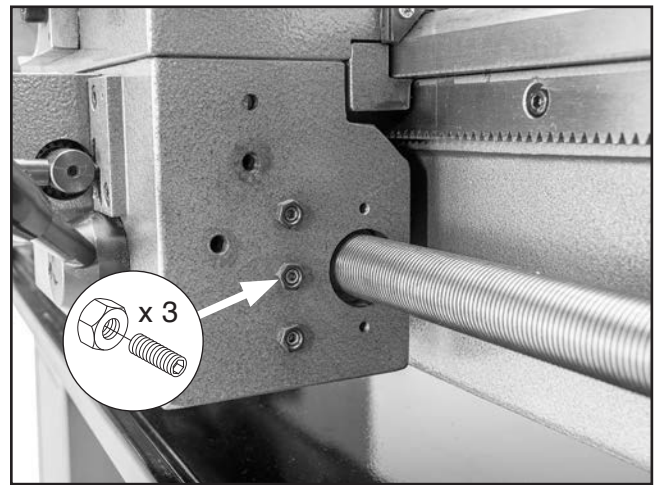

Figure 130. Location of half nut gib set screws and jam nuts.
4. Without turning gib set screws, loosen (3) gib jam nuts shown in **Figure 130**.
5. Tighten each gib set screw (see **Figure 130**) approximately $\frac{1}{8}$ of a turn.